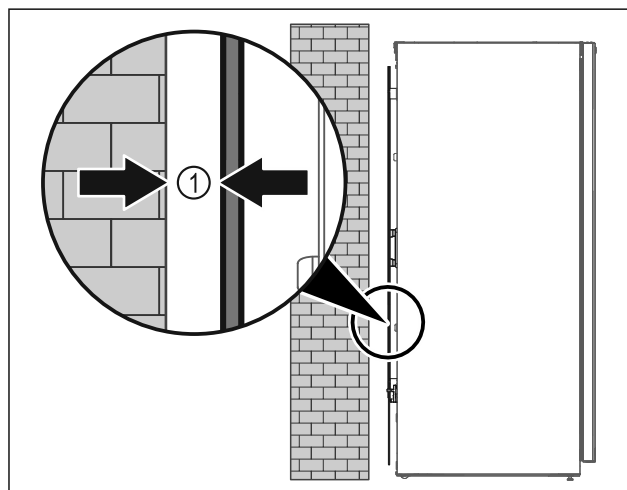

Fig. 47
- Set up the appliance either free-standing or directly against a wall at a minimum distance of 5 mm Fig. 47 (1).